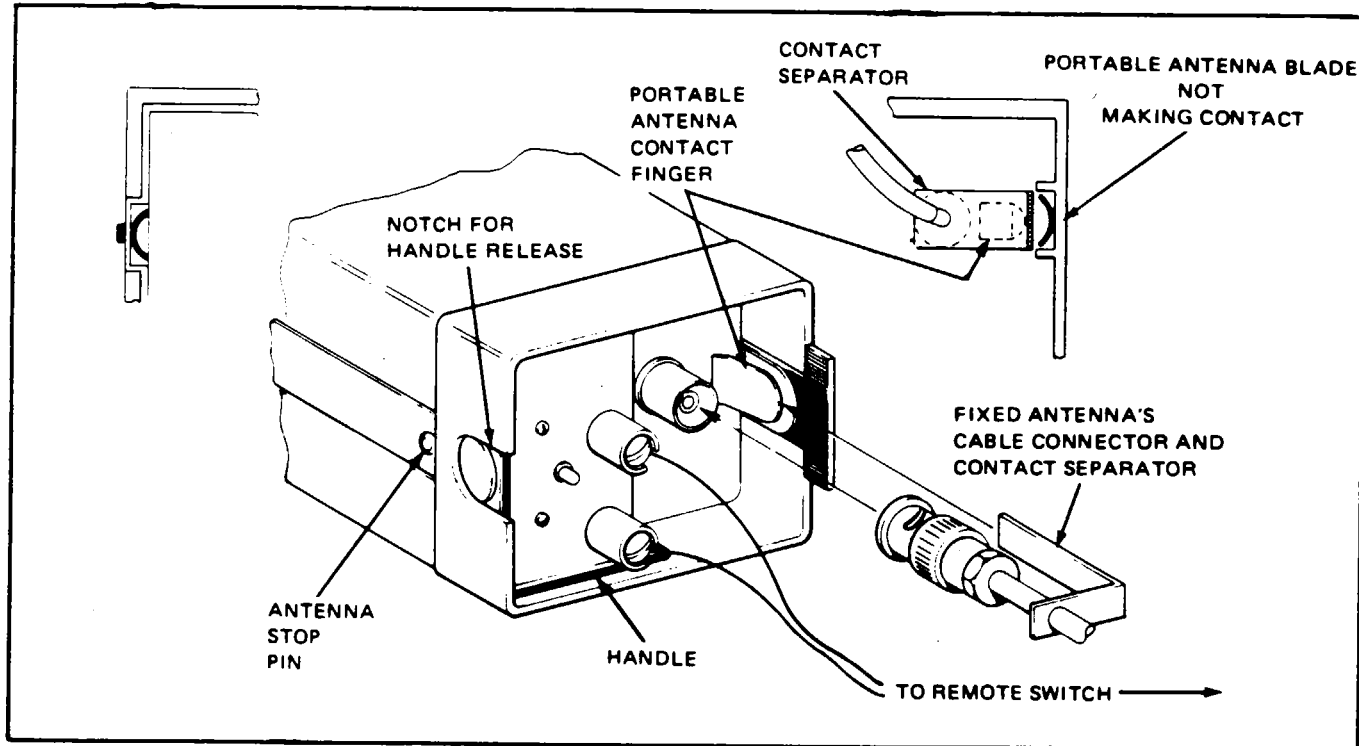

Figure 23-2. ELT Using Fixed Aircraft Antenna (Narco)
13. Connect the antenna coaxial cable to the ELT and ensure that the contact separator is inserted between the antenna contact finger and the portable antenna. (Ref. Fig. 23-2.)